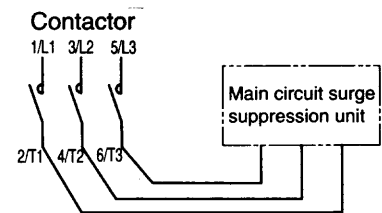

Figure 3
**2.3 Connection of Lead Wire (\* 3 and \* 6). (Figure 3)**